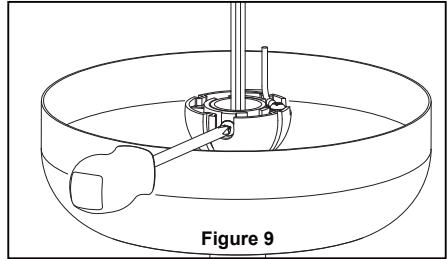

Figure 9
- ☐ 9. Reinstall the hanger ball on the downrod as follows. Route the black and white wires through the hanger ball. Position the pin through the two holes in the downrod and align the hanger ball so the pin is captured in the groove in the top of the hanger ball. Pull the hanger ball up tight against the pin. Securely tighten the set screw in the hanger ball. A loose set screw could create fan wobble. (Figure 9)